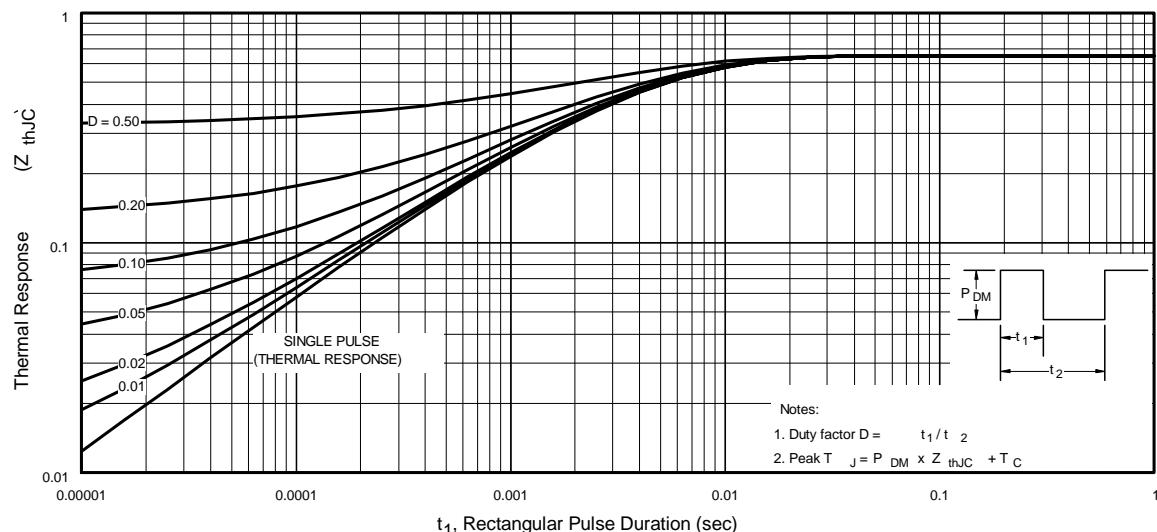

Fig 11. Maximum Effective Transient Thermal Impedance, Junction-to-Case
- $Z_{thJC}(D, t_{av})$ = Transient thermal resistance, see figure 11)
- ① Repetitive rating; pulse width limited by max. junction temperature. (See fig. 11).
- ② Starting $T_J = 25^\circ\text{C}$, $L = 0.063\text{mH}$